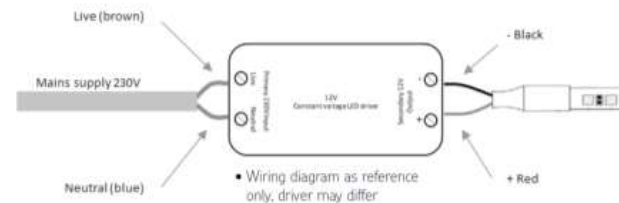

Fig. 2
- Terminate the LED Flex to the secondary side of the driver ensuring correct polarity is observed, Red (+) and Black (-) (see Fig. 2)